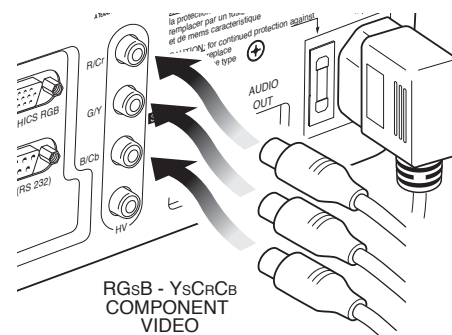

Fig. 20
This input is suitable for a RGB video signal, or for a Component (YCrCb) type, with composite synchronisation on the green signal (RGsB) or on the luminance (Y) signal (YsCrCb) through a cable with RCA/Phono type connector (Fig. 20).